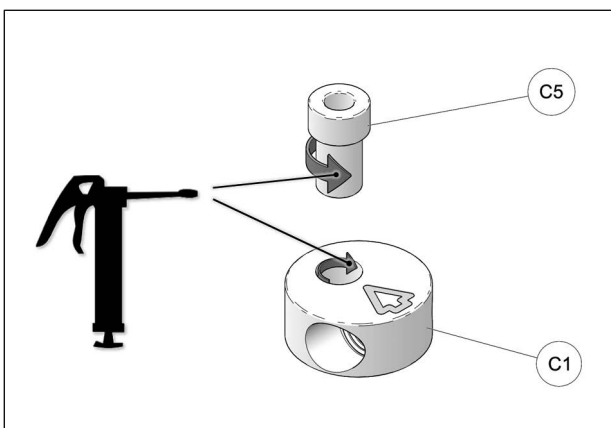

Fig. 27
13. Apply grease evenly all around step spacer bushing (C5) and in hole of aluminum disk (C1) when assembling these parts together. See Fig. 27